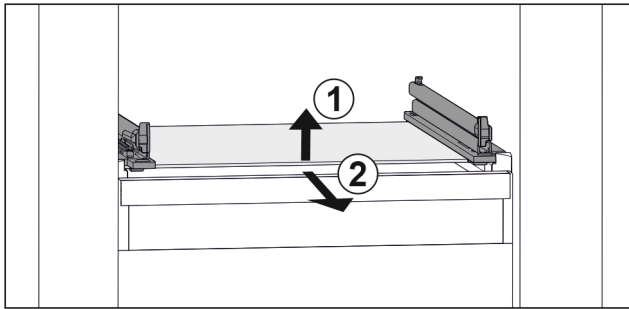

Fig. 105 Example illustration of glass shelf
- ▶ Lift glass shelf at the front. Fig. 105 (1)
- ▶ Take out glass shelf to the front. Fig. 105 (2)